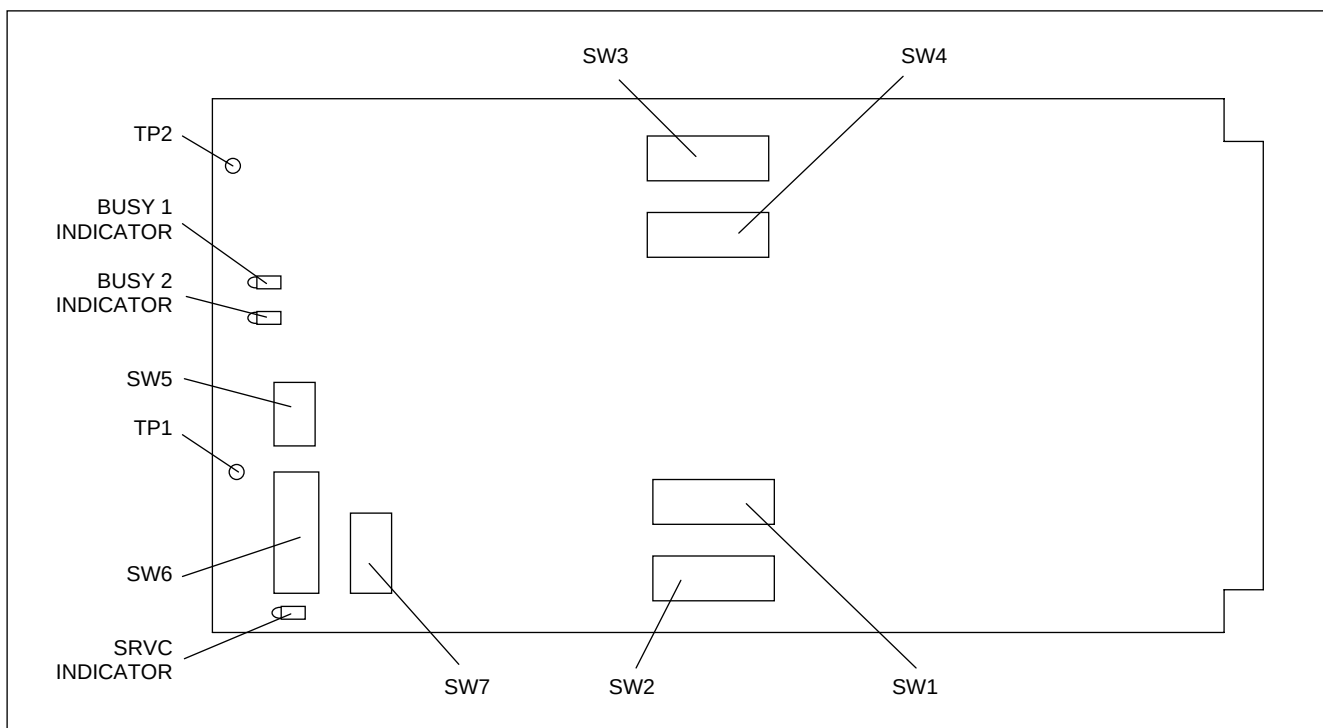

Figure 5. Controls and indicators, RFL VF-15
5. Set the address for the module using DIP switch SW7. (See Figures 5 and 6 for location.)
6. Select one-channel or two-channel operation using SW5-4. (See Figures 5 and 6 for location.)
7. Set transmit/receive attenuator switches SW1 through SW4, if settings other than factory standard are desired. (See Figures 5 and 6 for location.)
8. Select any unused time slot using SW6-1 through SW6-5. (See Figures 5 and 6 for location.)